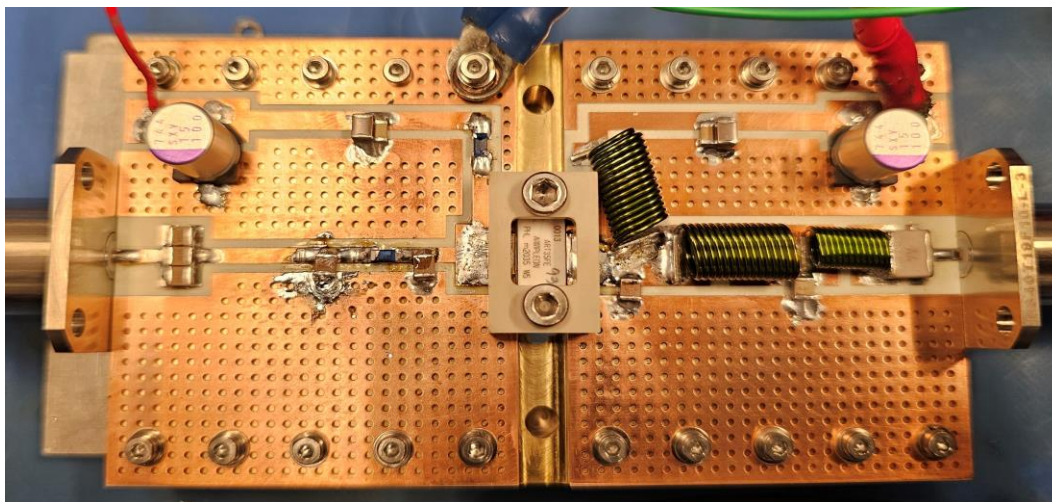

Figure 1 Demo top view
- Figure 1 Demo top view 3
Figures 1 and 2 showcase the top view of the demo board and its corresponding schematic, providing visual insights into its design and configuration.